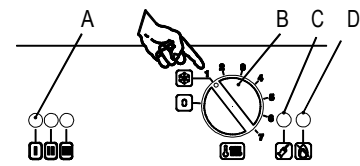

Figure 15.3
- Turn the function selector B as in Fig. 15.3. The appliance operation light A will flash every 2 seconds.
To reset the boiler turn the knob B (figure 15.3) on the 0 position and then press and release the boiler reset button C (Fig. 15.3).
With the burner on high flame close the gas cock. After three ignition attempts (within about three minutes), the lock-out signal lamp must appear (D on Figure 15.3). To reset the boiler turn the knob B (figure 15.3) on the 0 position and then press and release the boiler reset button (C on Figure 15.3).